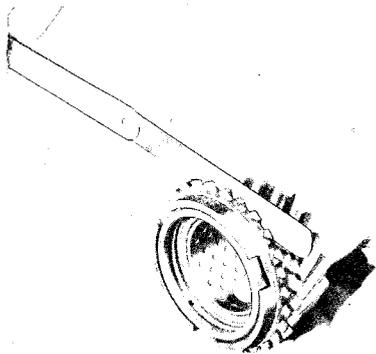

Fig. 7A-39 Checking synchronizer ring
2. Inspect the synchronizer ring for wear. To check the wear of the synchronizer ring, fit the synchronizer ring evenly to the gear cone and measure the clearance between the side faces of the synchronizer ring and the gear with a feeler gauge, as shown in Fig. 7A-39. If it is less than **0.8 mm (0.031 in)**, replace the synchronizer ring or gear. The standard clearance is 1.5 mm (0.059 in).